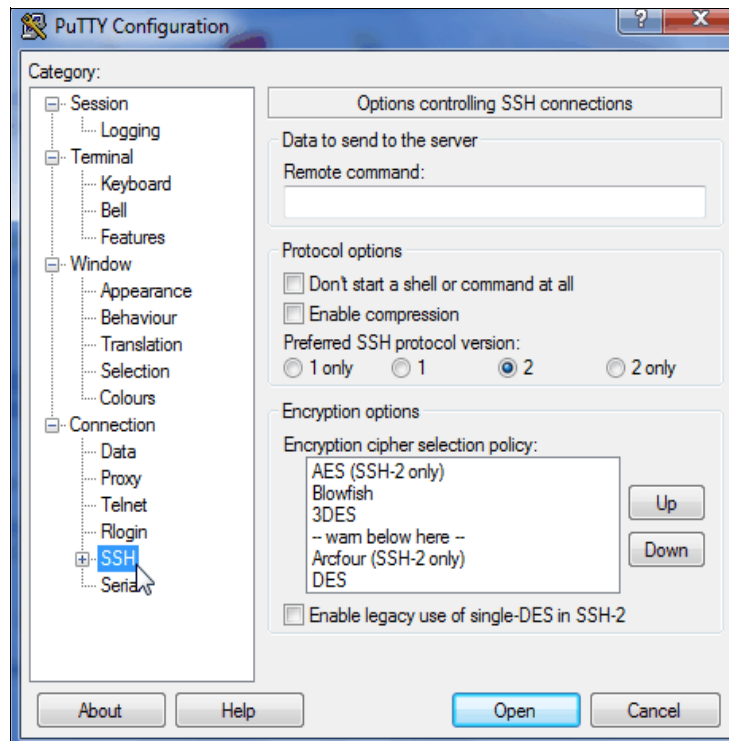

Figure A-11 SSH protocol version 2
2. From the Category pane on the left side of the PuTTY Configuration window, click **Connection** → **SSH** to open the PuTTY SSH Configuration window, as shown in Figure A-11.